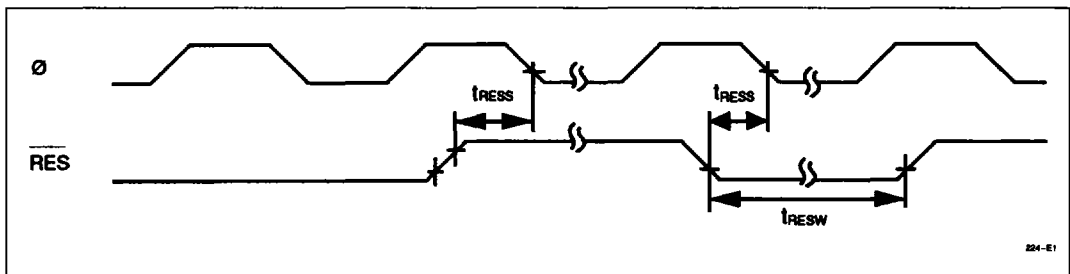

Figure 14-6. Reset Input Timing
14.3.2 Control Signal Timing	Figures 14-6 to 14-9